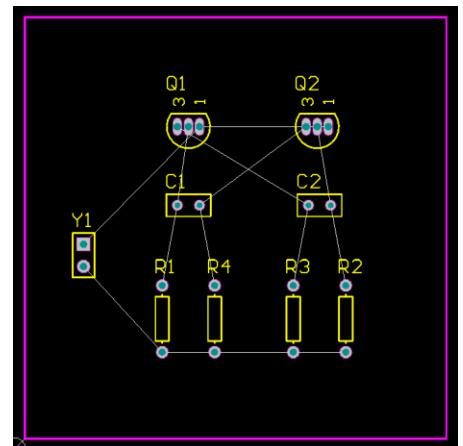

Figure 6. Capacitors with new footprints.
2. Double-click on the capacitors and change the **Footprint** field to `RAD-0.1` in the *Component* dialog. You can type in the new footprint name, or press the ... button and select a footprint from the *Browse Libraries* dialog. Click **OK** and the new footprints are displayed on the board. Reposition the designators as required. Your board should now look something like Figure 6.